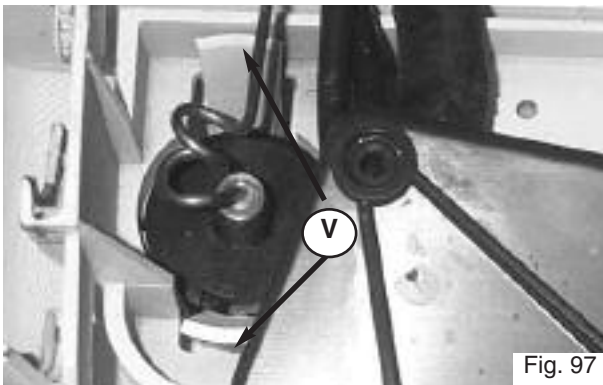

Fig. 97
4. Unscrew the nut **U** (see Fig. 97);
2. Remove the pressure gauge by releasing the two clips **V** and pulling the pressure gauge out. (see *Fig. 97*)